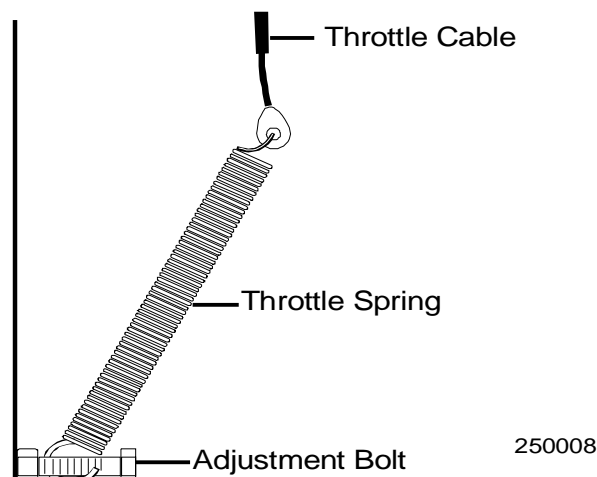

FIG. 3-1
**See Figure 3-1. NOTE:** The engine should start to throttle as soon as you start moving the clutch handle down. If the engine dies instead, restart the engine and adjust the throttle linkage down as far as possible without affecting low-end RPM. With the engine idling and the clutch disengaged, loosen the mounting bolt and pull the throttle link down to a point just above where it affects the low-end RPM. Retighten the mounting bolt.